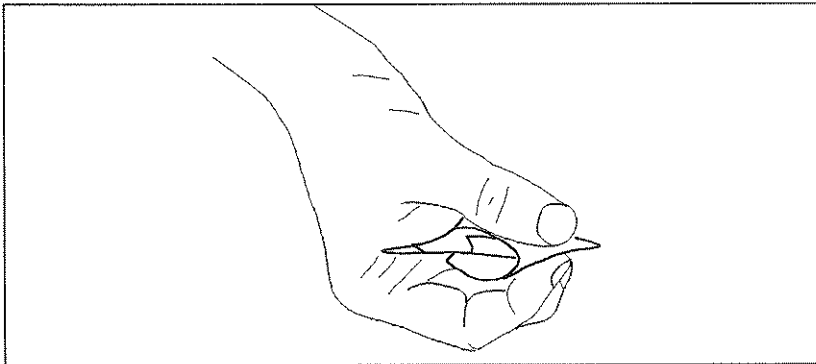

Figure 2-1.
b. Wrap the trimmed toothpick with a single layer of lint-free cleaning cloth (see Figure 2-1).